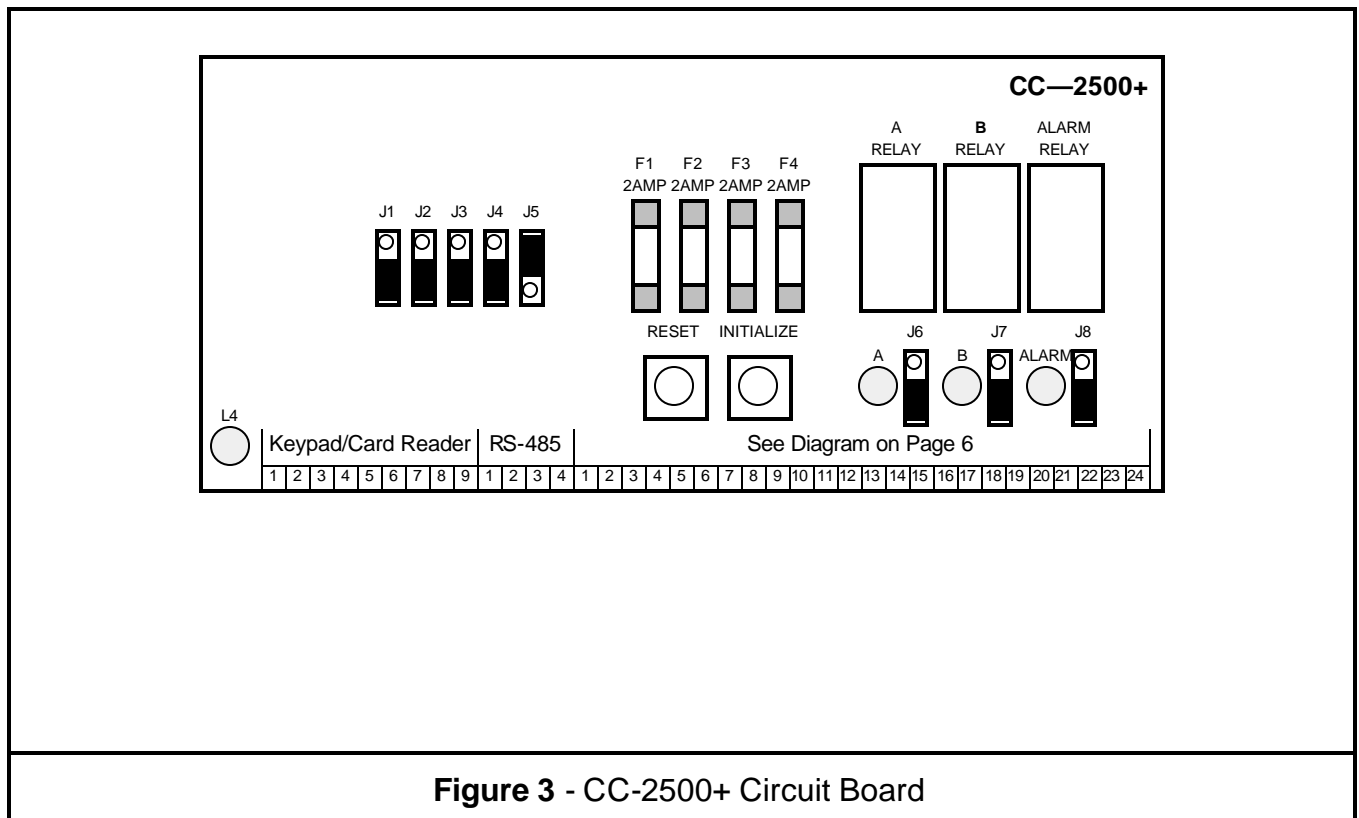

Figure 3 - CC-2500+ Circuit Board
- 18 **A-N/C:** Relay A normally closed contact or solid state switch to ground - set jumper J6 accordingly (see figure 3).
- 21 **B-N/C:** Relay B normally closed contact or solid state switch to ground - set jumper J7 accordingly (see figure 3).
- 24 **ALARM-N/C:** Alarm relay normally closed contact or solid state switch to ground - set jumper J8 accordingly (see figure 3).
Figure 3 below details the CC-2500+ Circuit Board.
Replace only with the same value 20mm fuse as shown in figure 3.